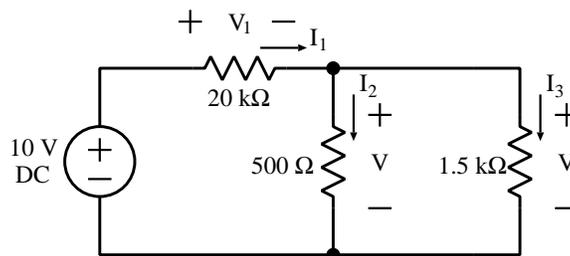

Figure 3: Series and Parallel Resistance
5.) Before you connect up the circuit in Figure 3, carefully measure the resistances  $R_1$ ,  $R_2$ , and  $R_3$  using the appropriate  $1/4\text{ W}$  resistors from the cabinet. Then construct your circuit using the breadboard and the Mastech DC Power Supply.